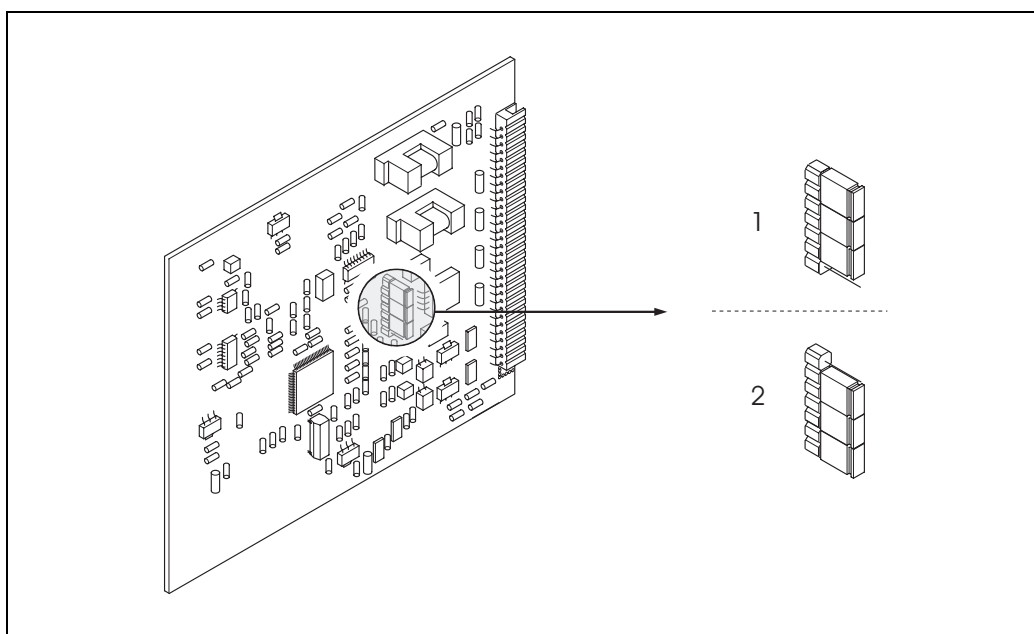

Fig. 28: Configuring the current output (I/O board)
3. Set the jumpers in accordance with → Fig. 28